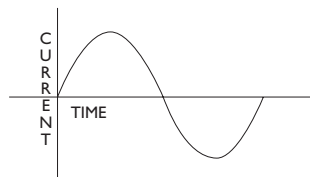

Fig. 37-3 Single-phase alternating current.
Alternating current (AC) alters its direction (or reverses) many times in each second. The amplitude of current increases to a maximum in one direction, drops off to zero, and increases to a maximum in the opposite direction, as shown in Fig. 37-3. This complete process is called a *cycle*. The *frequency* of a current is the number of times that this process (cycle) occurs